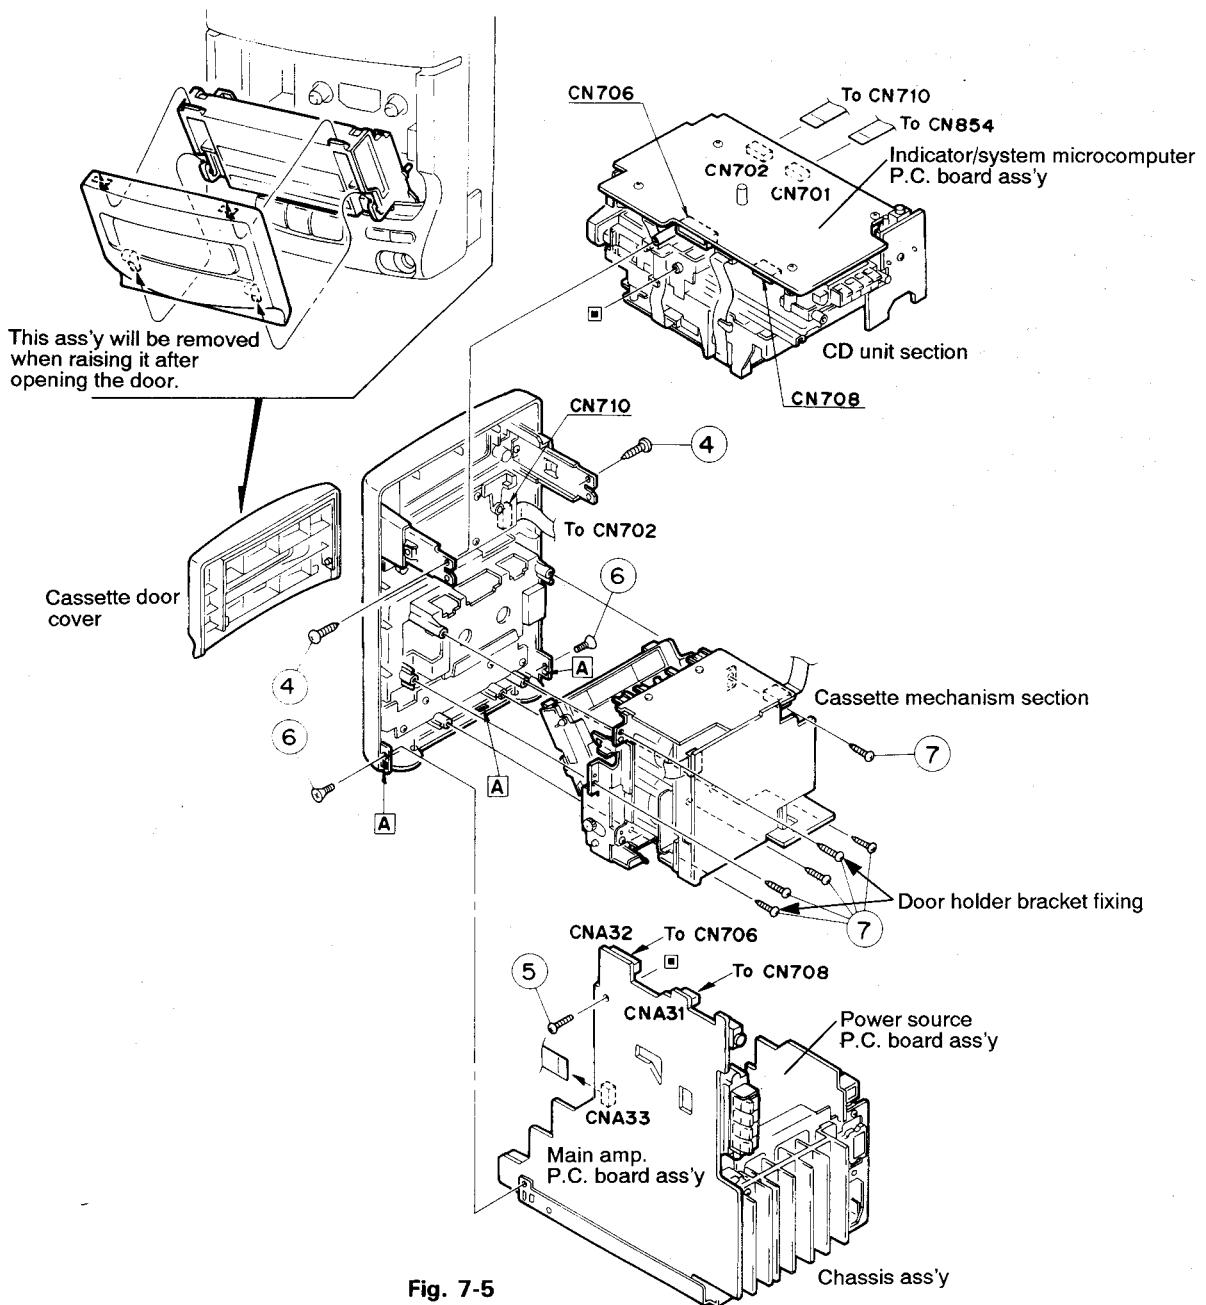

Fig. 7-5
■ How to Remove the CD Player Ass'y (Refer to Fig. 7-5)
■ How to Remove the Main Amplifier and Power Source P.C. Board (Refer to Fig. 7-5)
■ How to Remove the Cassette Mechanism Ass'y (Refer to Fig. 7-5)
4. Remove the five screws (7) retaining the cassette mechanism ass'y.